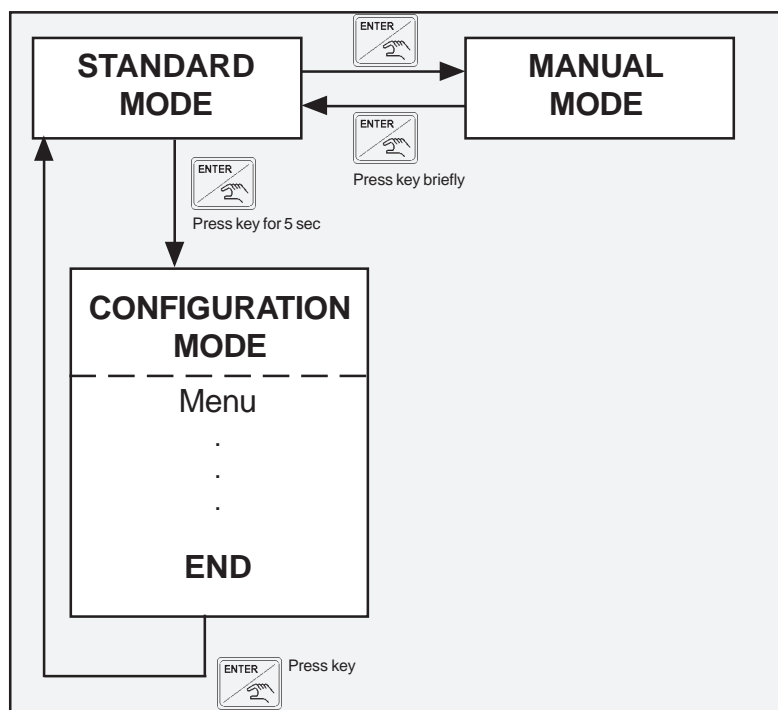

Fig. 6: Switching between the operational modes
- Changing to the other operational modes is possible as shown in Fig. 6.